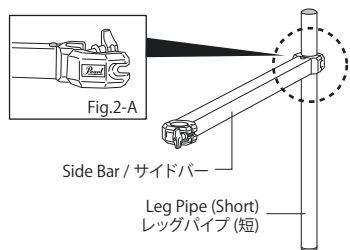

Fig.2
2. For the two side Rack Extensions, use one Square Bar and one Leg (short). Open the clamp section of one side of the Square Bar (Fig.2-A) and connect it onto the Leg as shown (Fig.2). Repeat this process using the other Square Bar and Leg (short) as shown (Fig.2).
サイドバーのクランプ部を開き、レッグパイプ(短)を任意の場所に取付けて固定します(Fig.2-A)。同じものをもう1セット用意してください(Fig.2)。